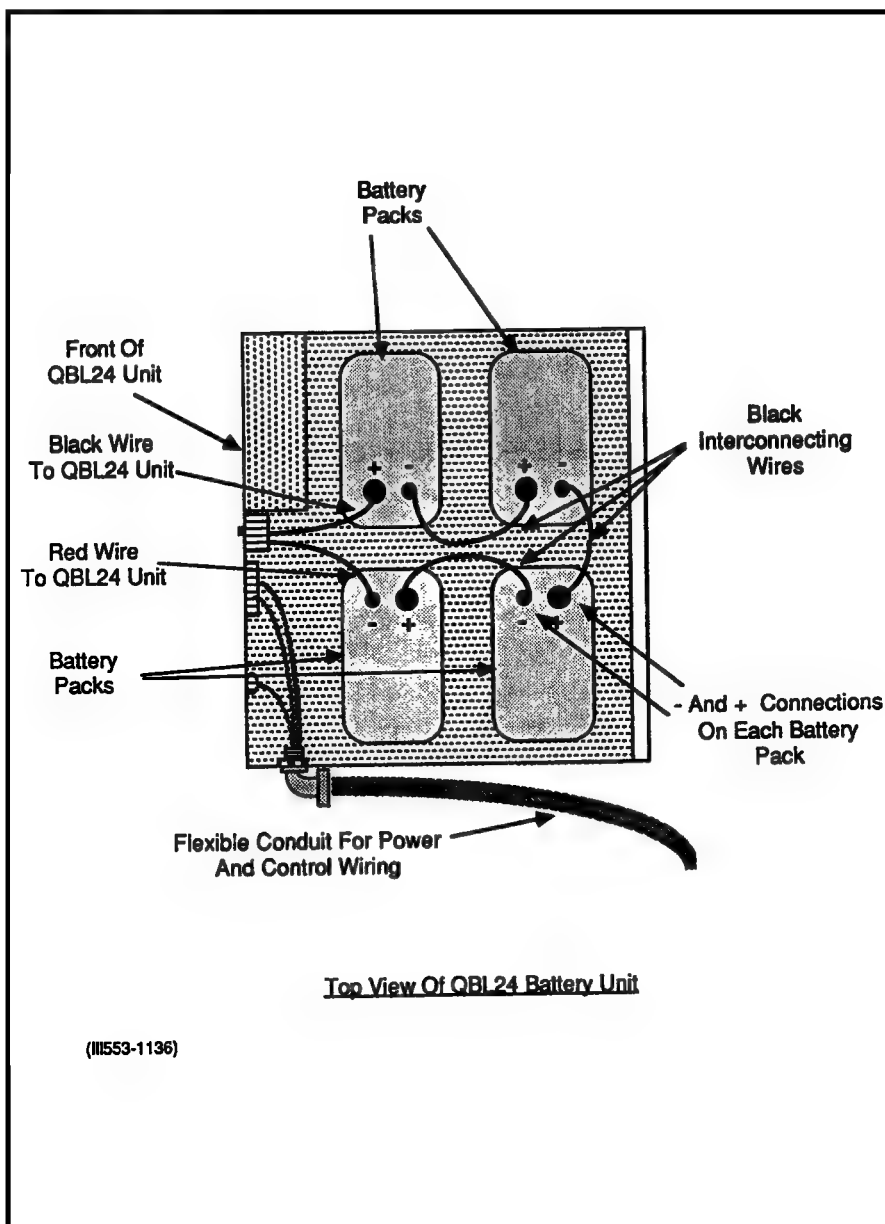

Figure 2-9
- 14 At the rear of the -48 V rectifier, disconnect and remove red and black wires going from TB3 to TB1 at the rear of the QUX19 unit (Fig. 2-9).
- 15 Connect the power and control wiring from the QBL24 unit as follows (Fig. 2-9):
- Remove straps from terminals 1 and 2, and 3 and 4 of TB4 at rear of rectifier (Fig. 2-9).
- Connect the black wire equipped with a spade tip connector to terminal 2 (+SENSE) on TB4 of the rectifier (Fig. 2-9).
- Connect the red wire equipped with a spade tip connector to terminal 3 (-SENSE) on TB4 of the rectifier (Fig. 2-9).
- Connect red and black wires not equipped with connectors (bare-ended) to the R (1) and BK (2) terminals of TB1 at the rear of the QUX19 unit (Fig. 2-9).